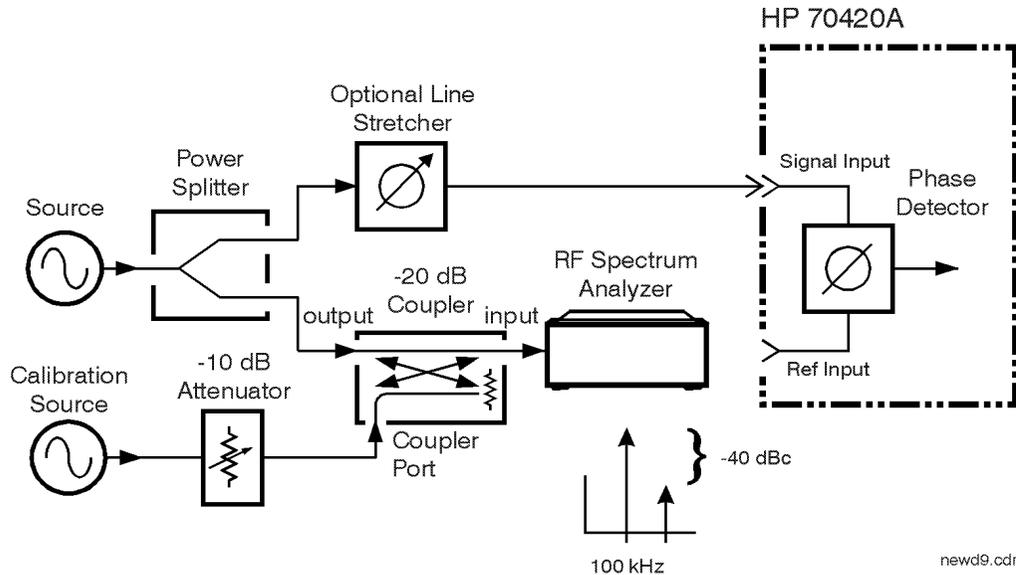

Figure 8-15 Calibration Setup
1. Connect circuit as per Figure 8-15 on page 8-25, and tighten all connections. Note that the input signal into the directional coupler is being supplied to the coupler's output port.